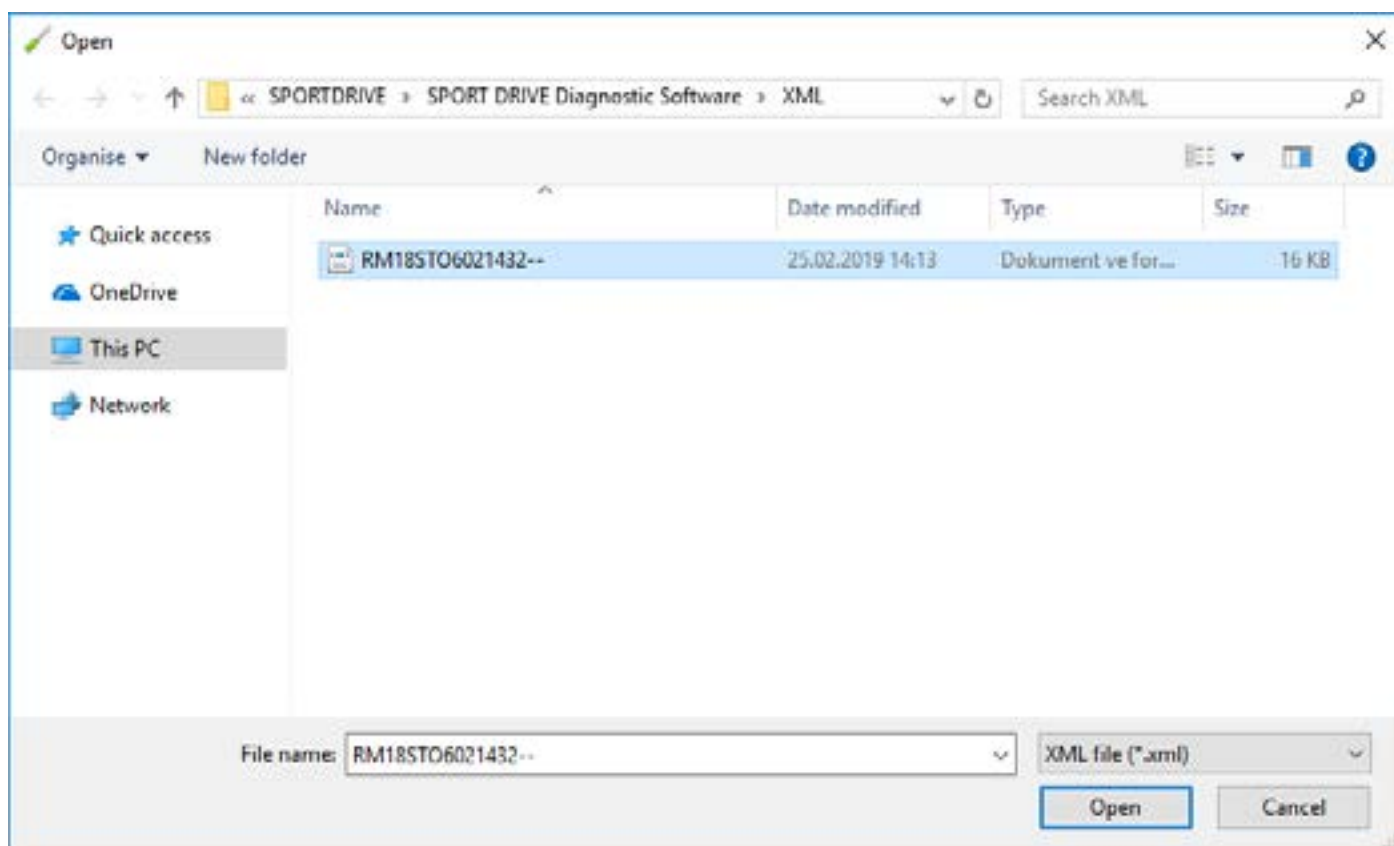

Figure 3.38 Configuration – Selecting the correct XML file
2. Select the suitable XML configuration file (Fig. 3.38).